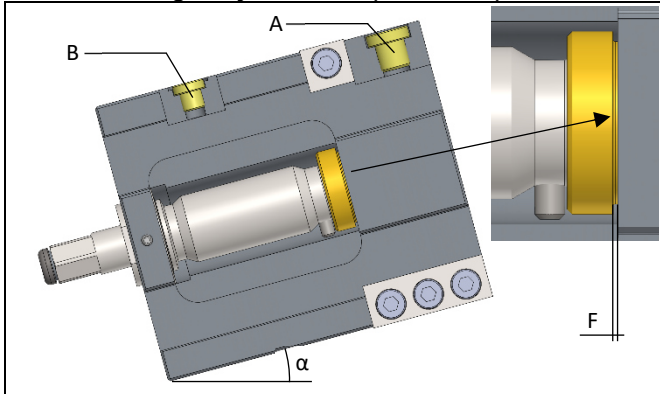

Fig. 18: Refilling of hydraulic oil (on the universal slide)
5. Place the clamping slide at an angle of 10° (see Fig. 18).